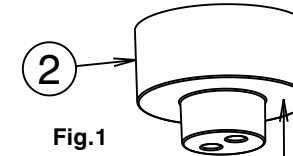

Fig.1
- 1a) Prior to pouring of the concrete slab, install the pipework for hot & cold water supplies in accordance with AS/NZS 3500.1. Slide the installation template (2) over the vertical section of each pipe (1) which will penetrate the slab and position the bottom face (see Fig.1 above) of the template at the approximate finished floor level. Crimp or cap the end of each pipe taking care that heat does not damage the installation template (2). Tag the pipe which will supply hot water for identification later in the installation.
1c) Mark the centre position of the desired location for the Mixer then drill a hole $\text{Ø}60 \pm 2 \text{mm}$ through the flooring base materials. Install the pipework for hot & cold water supplies in accordance with AS/NZS 3500.1. Slide the installation template (2) over the vertical section of each pipe (1) protruding from the floor and position the bottom face (see Fig.1 above) of the template on the top surface of the floor. Crimp or cap the end of each pipe taking care that heat does not damage the installation template (2). Secure the pipework under the floor using suitable brackets, clips or hangers. Care must be taken that undue strain is not applied to the vertical pipe legs which may influence the pipe centres when the installation template is removed after floor trades are complete.